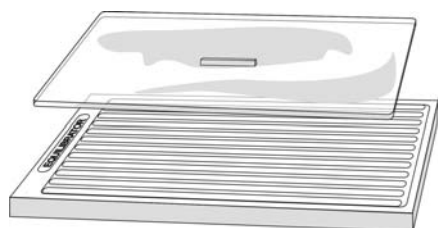

Fig. 1
2. Using a **gelcompany** equilibrator (fig. 1; cat. #1003-04) on an orbital shaker (30 rev/min) equilibrate each strip in DDT solution for 15 min. Then move the strip to a slot containing IAA solution (3 mL) and equilibrate for a further 15 min. After the 2nd equilibration discard the solutions.